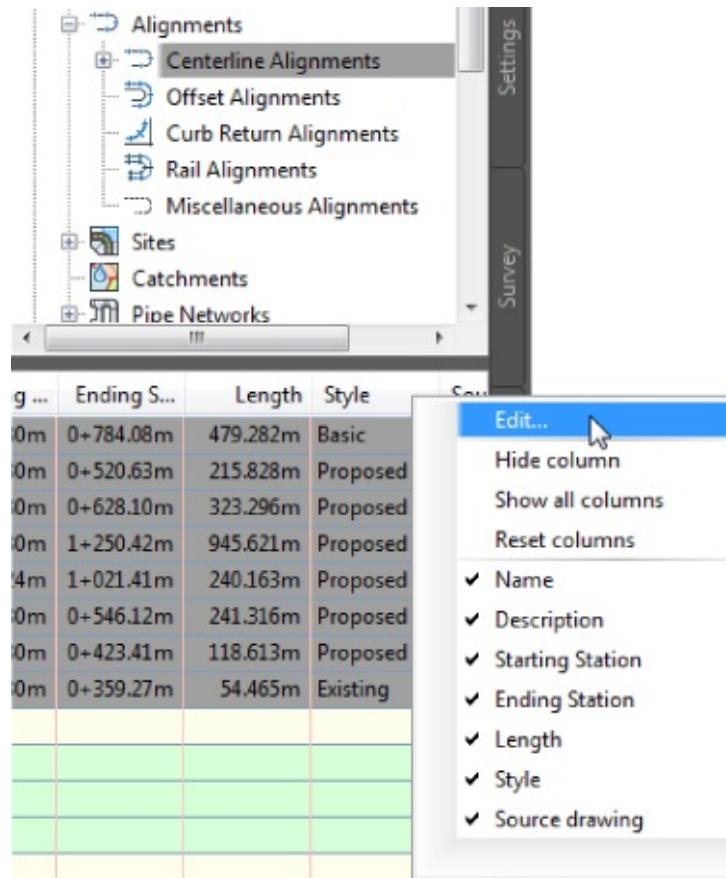

Figure 6.43 Editing alignment styles en masse via Prospector
21. Right-click the Style column header and select Edit (see Figure 6.43).